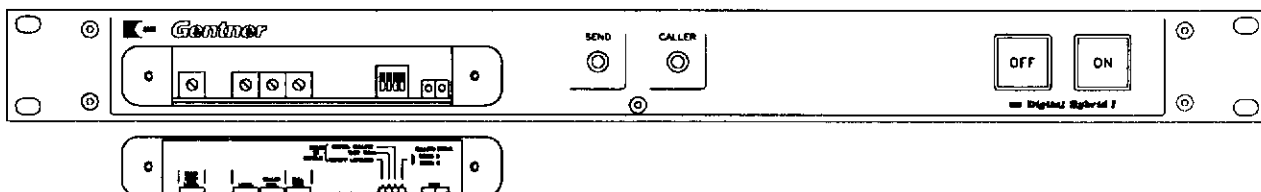

Figure 12
These controls are illustrated in Figure 12.
5. Locate the MAIN SEND trimmer potentiometer. It is the left-most trim-pot seen when looking at the front panel. See Figure 12.
Locate the CALLER LEVEL trimmer potentiometer. It is the second trim-pot from the left as viewed from the front of the Digital Hybrid I. (See Figure 12.)
There are four switches contained in a single DIP package location behind the removable front panel of the Digital Hybrid I. These switches are numbered 1 through 4, left to right, as viewed from the front of the unit. Refer to Figure 12.